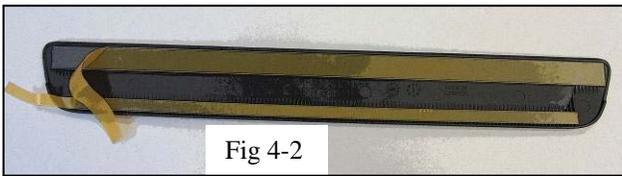

Fig 4-2
- c. Using tape Liner 1, peel back liner 50 to 75mm (2 to 3 inches) and position liner under and outward (Fig. 4-2).